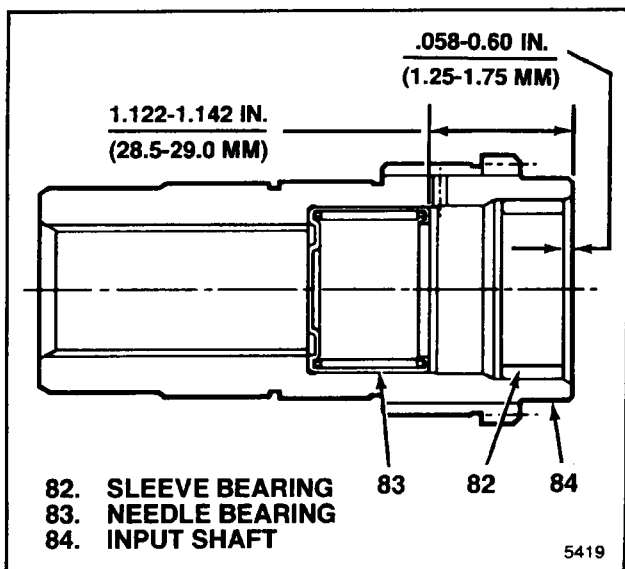
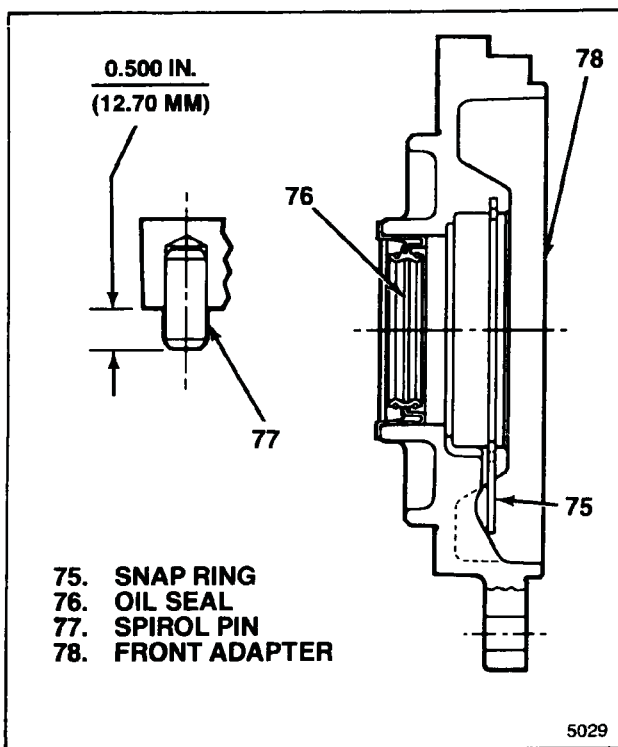

Figure 5-9. Input Shaft Assembly
Figure 5-10. Front Adapter Assembly
a. Lay planet carrier assembly (90) on work bench with end having groove for retaining ring (87) up.
b. Install sun gear (89) with hub end up. Rotate gears of planet carrier assembly (90) as required until sun gear is fully meshed.
c. Align tabs and install thrust plate (88) into planet carrier assembly (90)
d. Install retaining ring (87) to complete gear carrier assembly (86).
e. If removed, position needle bearing (83) as shown in figure 5-9 and press into input shaft (84) to dimension shown. Press in new sleeve bearing (82) to dimension shown in figure 5-9) to complete input shaft assembly (81).
f. Lift up gear carrier assembly (86) and install input shaft assembly (81) up through gear carrier assembly. Install thrust washer (85) and press bearing (80) over end of input shaft assembly. Retain bearing on input shaft with retaining ring (79) in shaft groove.
g. If removed, press new pin (77) into front adapter (78) to dimension shown in figure 5-10.
h. Position oil seal as shown in figure 5-10 and press into front adapter to dimension shown.
i. Install snap ring (75) in groove in front adapter (78) with long ends of snap ring in adapter groove to complete front adapter assembly (74).
j. Position front adapter assembly (84) with face that mates with transfer case (111) up. Support on wood blocks to provide clearance for input shaft assembly (81). Position assembled input shaft and carrier group (79 through 90) over front adapter with input shaft (84) down. Lower shaft and carrier group while expanding long ends of snap ring (75) until snap ring engages groove in OD of bearing (80).
k. Apply continuous 1/16 in. (1.6 mm) bead of sealant (Neutral Cure RTV, Loctite 598) all around transfer case (111) mounting face for front adapter (78). Center sealant bead between edges of face. Circle bolt holes.